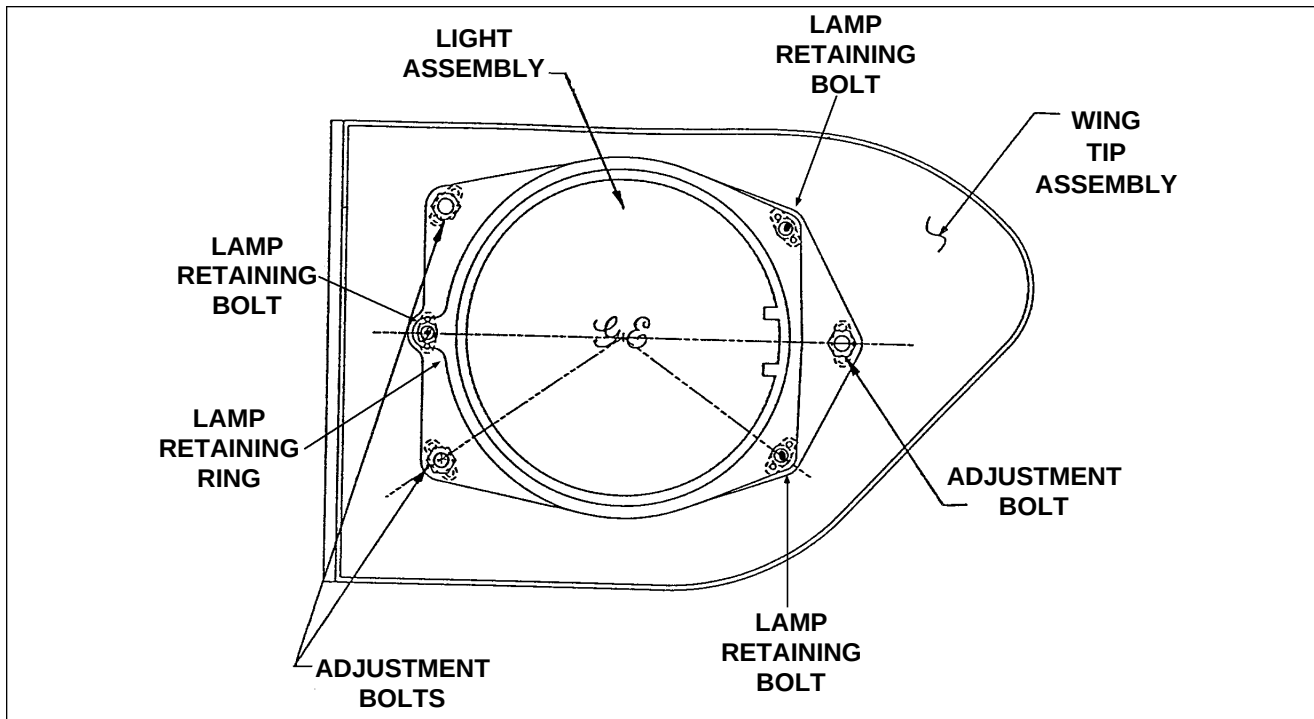

Figure 33-4. Archer III Landing Light Installation
- b. Remove the three **lamp retaining bolts**. Remove retaining ring. (Refer to Figure 33-4.)
- f. Adjust the three landing light adjustment bolts as necessary to move the landing light housing so that the center of the light beam illuminates the target wall at the following locations. (Refer to Figure 33-4.):
- (1) The left landing beam is centered at a point 32 ± 1 **inches** up from the floor.
- (2) The left landing beam is centered at a point $15 \text{ feet} \pm 3$ **inches** outboard from the airplane's centerline.
- (3) The right landing beam is centered at a point 32 ± 1 **inches** up from the floor.
- (4) The right landing beam is centered at a point $15 \text{ feet} \pm 3$ **inches** outboard from the airplane's centerline.